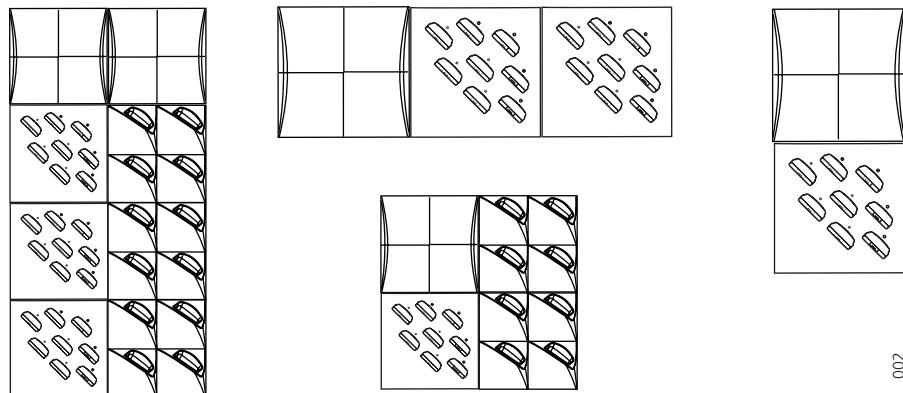

Figure 2. The figure shows four different ways to assemble the BPC1-AAA Charging Rack modules.
- The Power Supply CR24 should be mounted above or beside the charging modules (see figure 2 on page 4) due to the generation of heat.